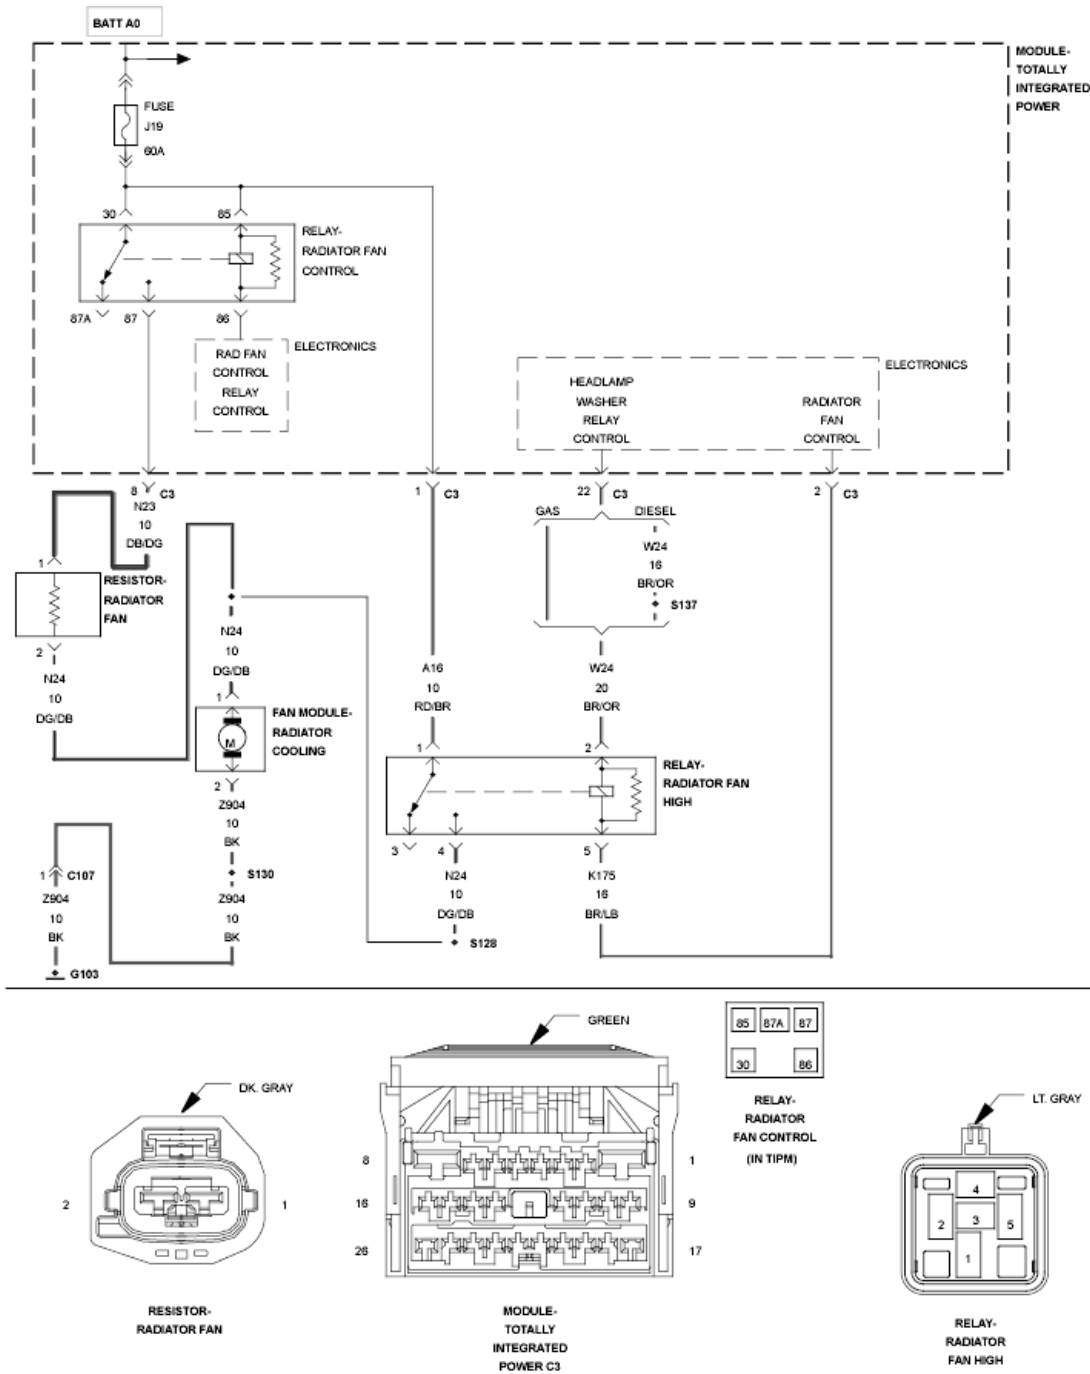

Fig. 15: Cooling Fan Operation Circuit Schematic
1. Using **Fig. 15** as a guide, inspect the wiring and connectors between the Cooling Fan Module, TIPM, and the Powertrain Control Module (PCM).